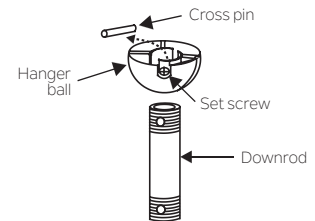

Fig. 7
Step 5. Remove the hanger ball from the downrod assembly by loosening the set screw, unscrewing and removing the cross pin and unscrewing the ball off the rod. (Fig.7)